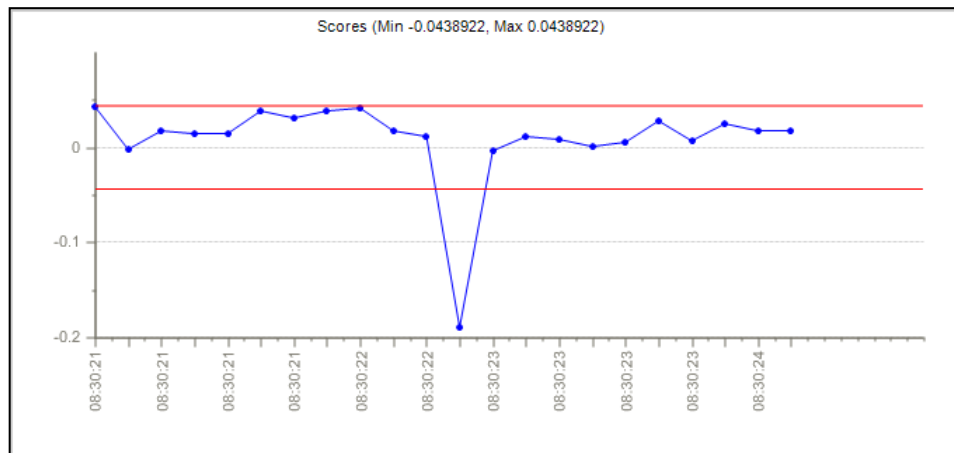

Figure 52 - Scores Line plot with limits
1. *Scores Line plot:* The scores line plot is displayed for the highest number of PCs in a model for each new sample predicted, and is shown with the Hotelling T^2 limit lines at that number of PCs in the model. The upper and lower limits for the Hotelling T^2 lines are based on the points where the overall confidence ellipse would cross the PC axes, if the scores were plotted as a 2D graph. To change the view to another PC, select the desired PC from the drop-down list in the upper right hand corner. See Figure 52 for an example line scores plot.